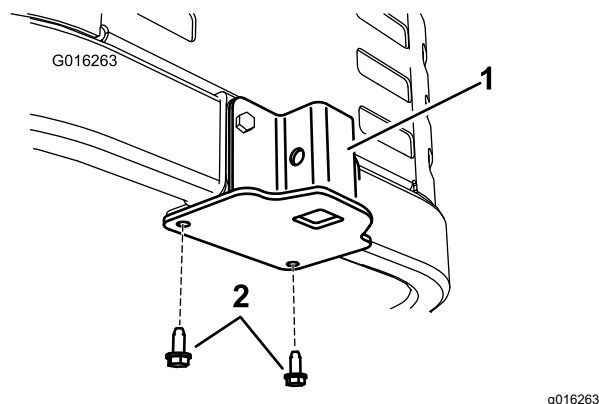

Figure 5
1. Remove the existing self tapping bolts in the bottom of the machine frame (Figure 5). Discard the bolts.
3. Secure the support bracket to the bottom of the machine frame from below using 2 new self-tapping screws (5/16 x 3/4 inch) as shown in Figure 5.